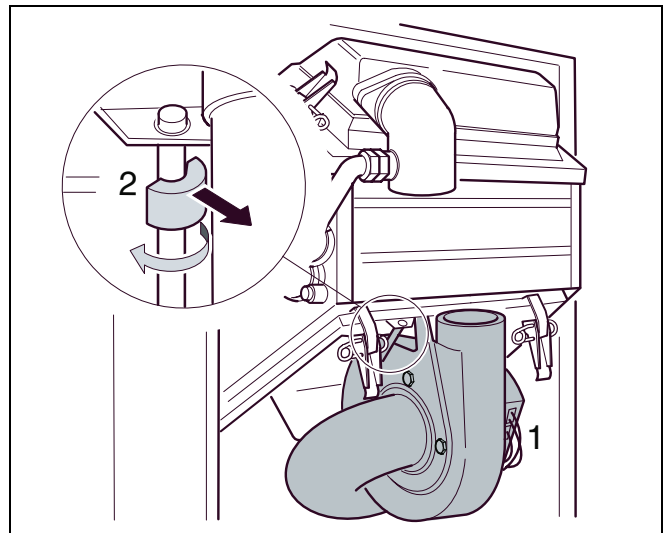

fig. 59 Removing safety retainers
- Pull out the plug of the fan (fig. 59, item 1).
- Turn and pull out the safety retainer of the fan (fig. 59, item 2).